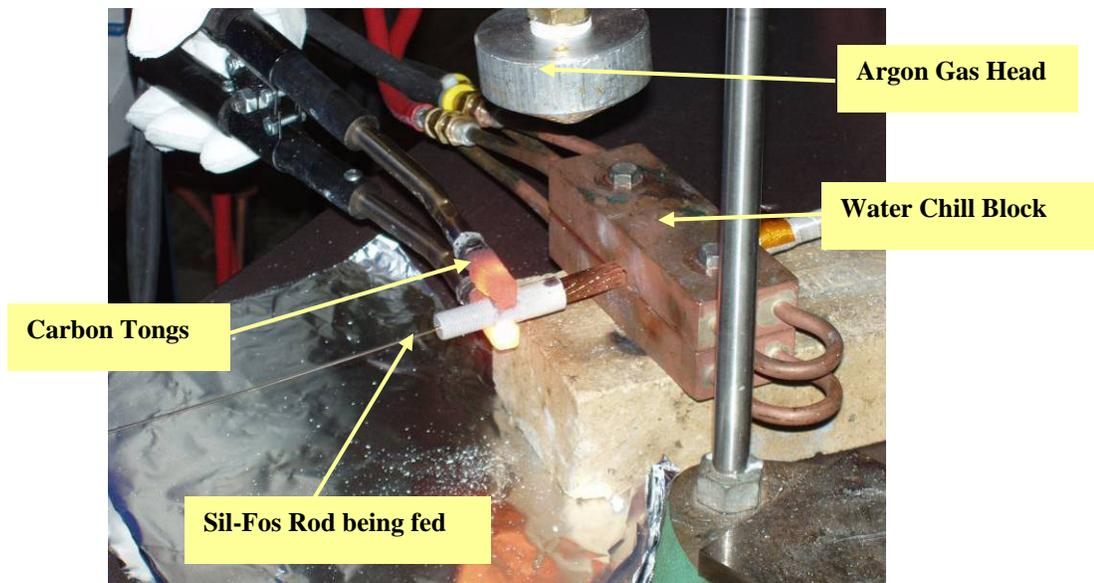

Figure 16- Basic Setup for Brazing Lead Connectors
- 6.12.8 Position the bare copper rope conductor into the water chill blocks and position the Argon gas-head directly over and approximately 4 inches from the copper connector. Chill plates should be positioned on the bare conductor to the edge of the insulation. [Figure 16- Basic Setup for Brazing Lead Connectors]